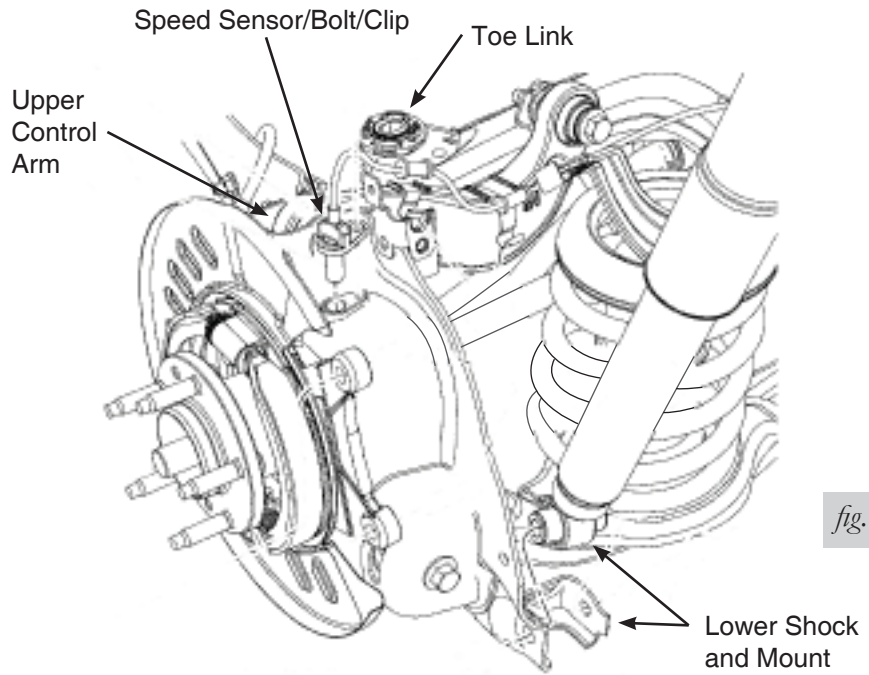

fig. 2
4. Remove the speed sensor bolt, unclip the retainers and set aside the speed sensor (fig. 2).
8. Disconnect the lower shock from the lower control arm (fig. 2).
10. Pull outward on the knuckle while lowering the jack or jack stand until the spring can be removed (fig. 2 & 3). **AWD:** pull the half shaft through the knuckle opening and secure aside.